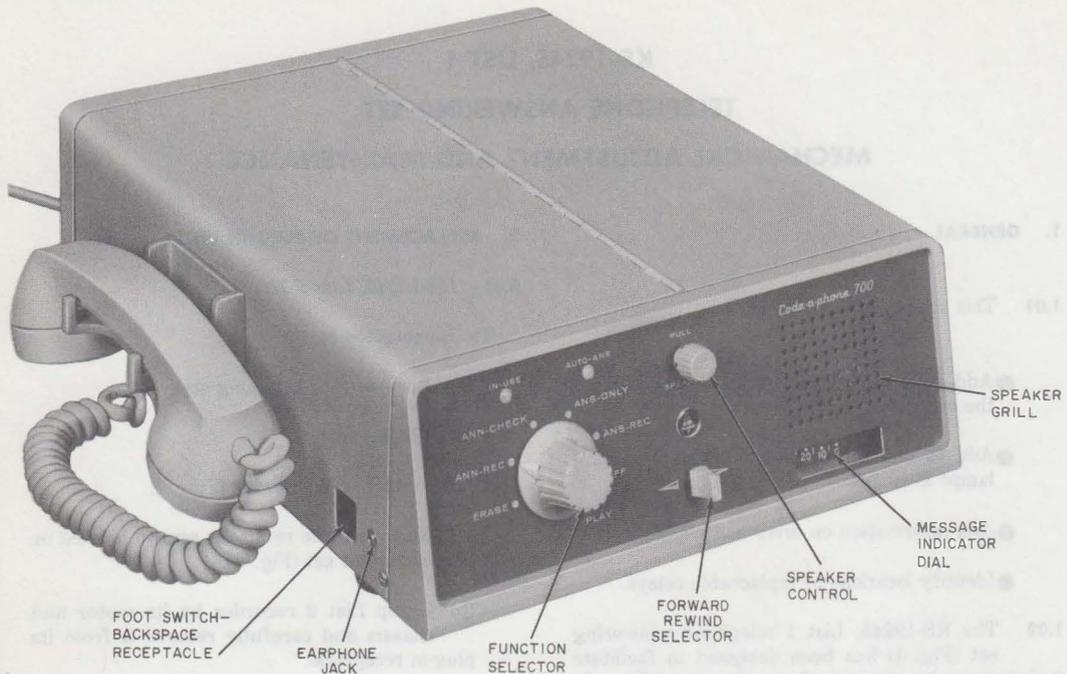

Fig. 1—KS-19245 List 1 Telephone Answering Set
1.02 The KS-19245, List 1 telephone answering set (Fig. 1) has been designed to facilitate maintenance by the use of plug-in assemblies. In general it is not recommended that replacement of component parts of these plug-in assemblies be attempted, since readjustments requiring special equipment and procedures will usually be required.